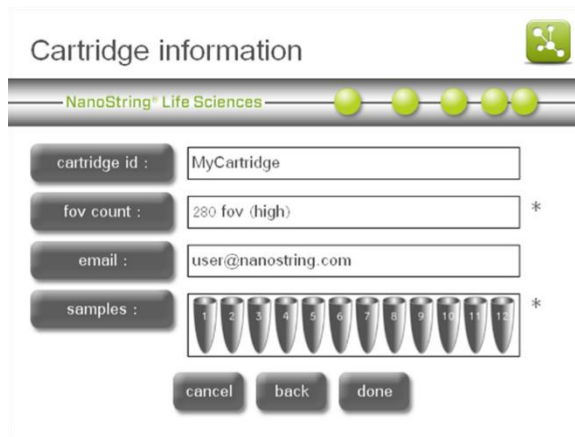

Figure 75: The 'Cartridge information' screen.
9. Press **enter**. The system will return to the 'Cartridge information' screen (**Figure 75**).